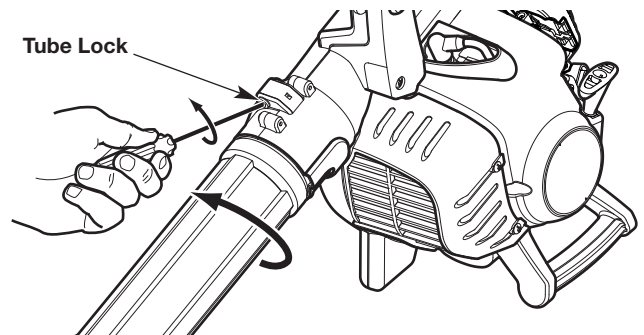

Fig. 4
1. Insert a flat-head screwdriver into the tube lock. Turn the screwdriver counterclockwise 1/4 turn and hold it in place (Fig. 4).
2. Twist the upper blower tube counterclockwise until it unlocks from the blower outlet (Fig. 4).